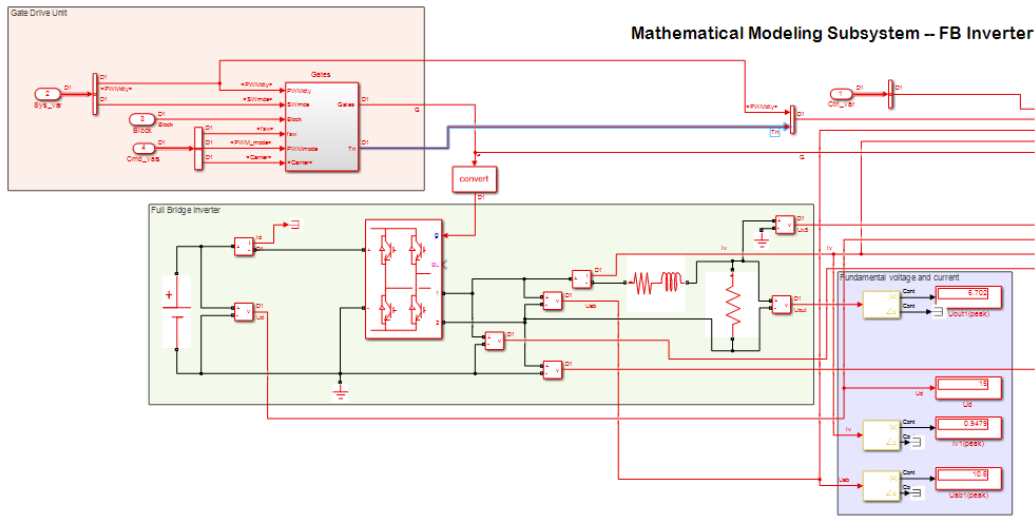

Figure 3.3: FB inverter mathematical model.
The full-bridge inverter is modeled using a **Full-Bridge Converter** block (shown in Figure 3.3), having the DC-inputs on the (+) and (-) terminals to the left and the AC-output terminals (1) and (2) to the right. A constant DC source is connected to the DC input and a resistive load in series with a filter inductor is connected to the AC output of the **Full-Bridge Converter** block.
The fundamental frequency peak voltages are measured through the SIMULINK blocks `Fourier`, which are shown in the lower right area of Figure 3.3. The `Fourier` block gives the peak voltage of defined harmonic components as defined by its parameters.